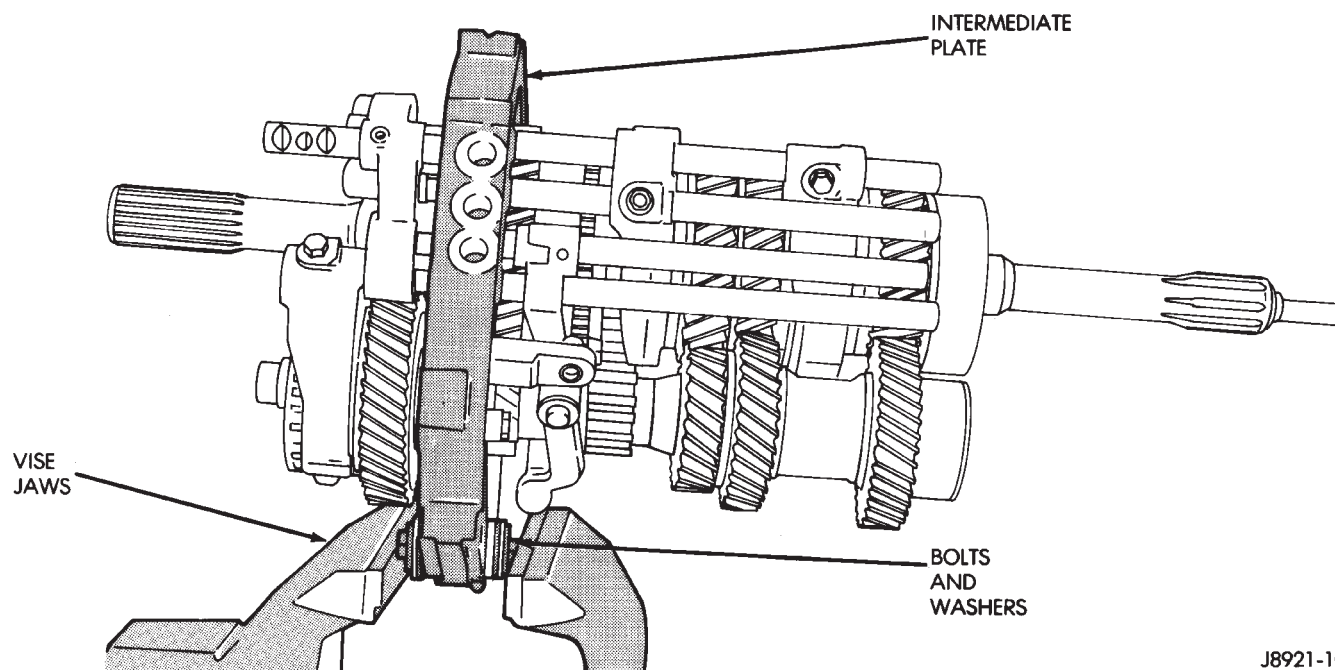
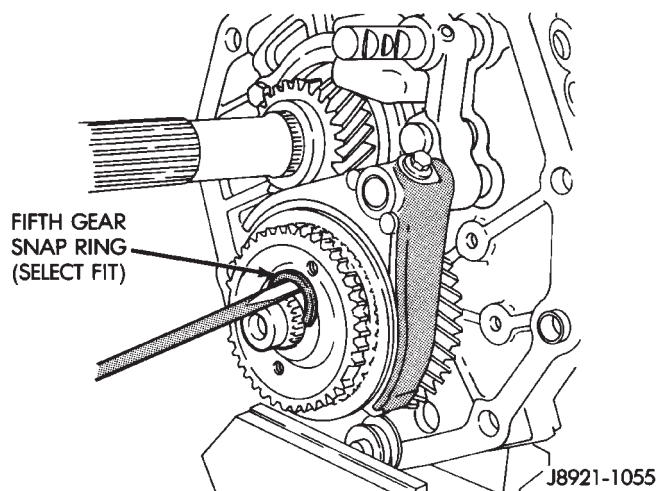

Fig. 51 Positioning Intermediate Plate In Vise
Fig. 52 Remove Fifth Gear Snap-ring
- (1) Install suitable bolts and washers in intermediate plate (Fig. 51). Then clamp plate and gear assembly in vise. Use enough washers to prevent bolts from touching. Also be sure vise jaws are clamped on bolt heads.
- (2) Measure thrust clearance between countershaft fifth gear and thrust ring with feeler gauge. Clearance should be 0.10 to 0.40 mm (0.003 to 0.019 in.). If clearance exceeds limits, gear and/or ring will have to be replaced.
- (3) Remove countershaft fifth gear retaining snap-ring (Fig. 52).